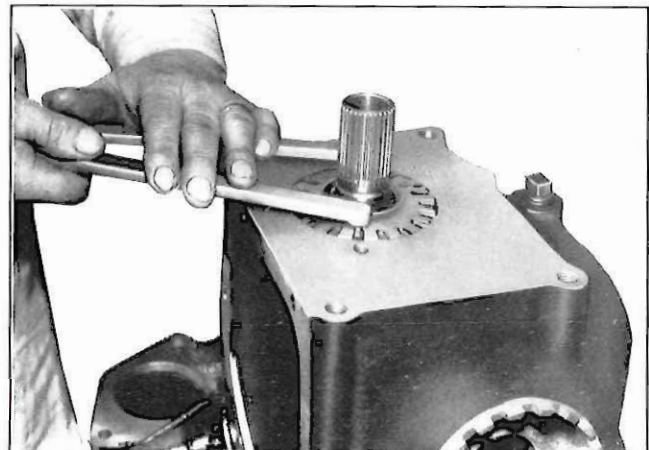

Fig. 7—Tightening Pinion Bearing Adjusting Sleeve with J-972
4. Tighten pinion bearing adjusting sleeve with tool No. J-972 (fig. 7) to just remove pinion bearing end play, then back off the adjusting sleeve 1/4 turn.